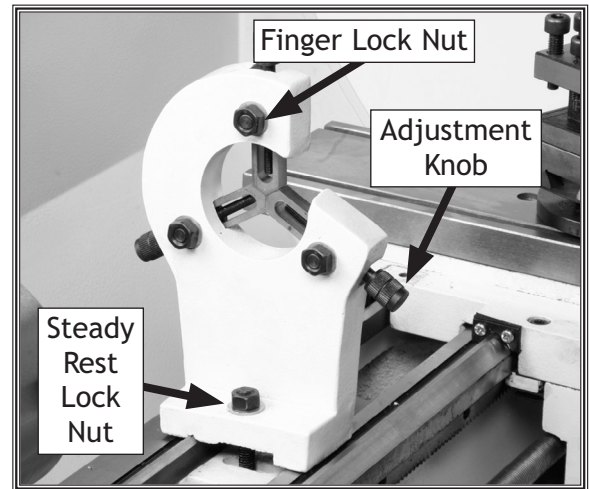

Figure 25. Steady rest adjustments.
2. Loosen the finger lock nuts so the finger position can be adjusted (see **Figure 25**).
4. Position the steady rest along the workpiece where desired. Tighten the steady rest lock nut (see **Figure 25**) to secure the steady rest in place.